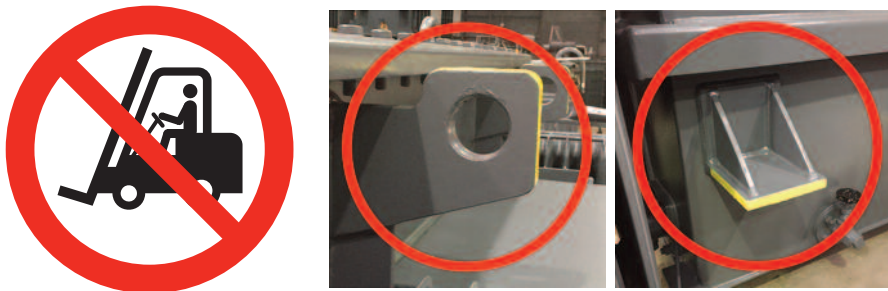

Figure 3 - Lifting Guide
- Under no circumstances should the transformer be moved with a fork lift. All lifting should be done by either slinging or jacking with the appropriate connections which are indicated with yellow paint and can be identified in Figure 3.